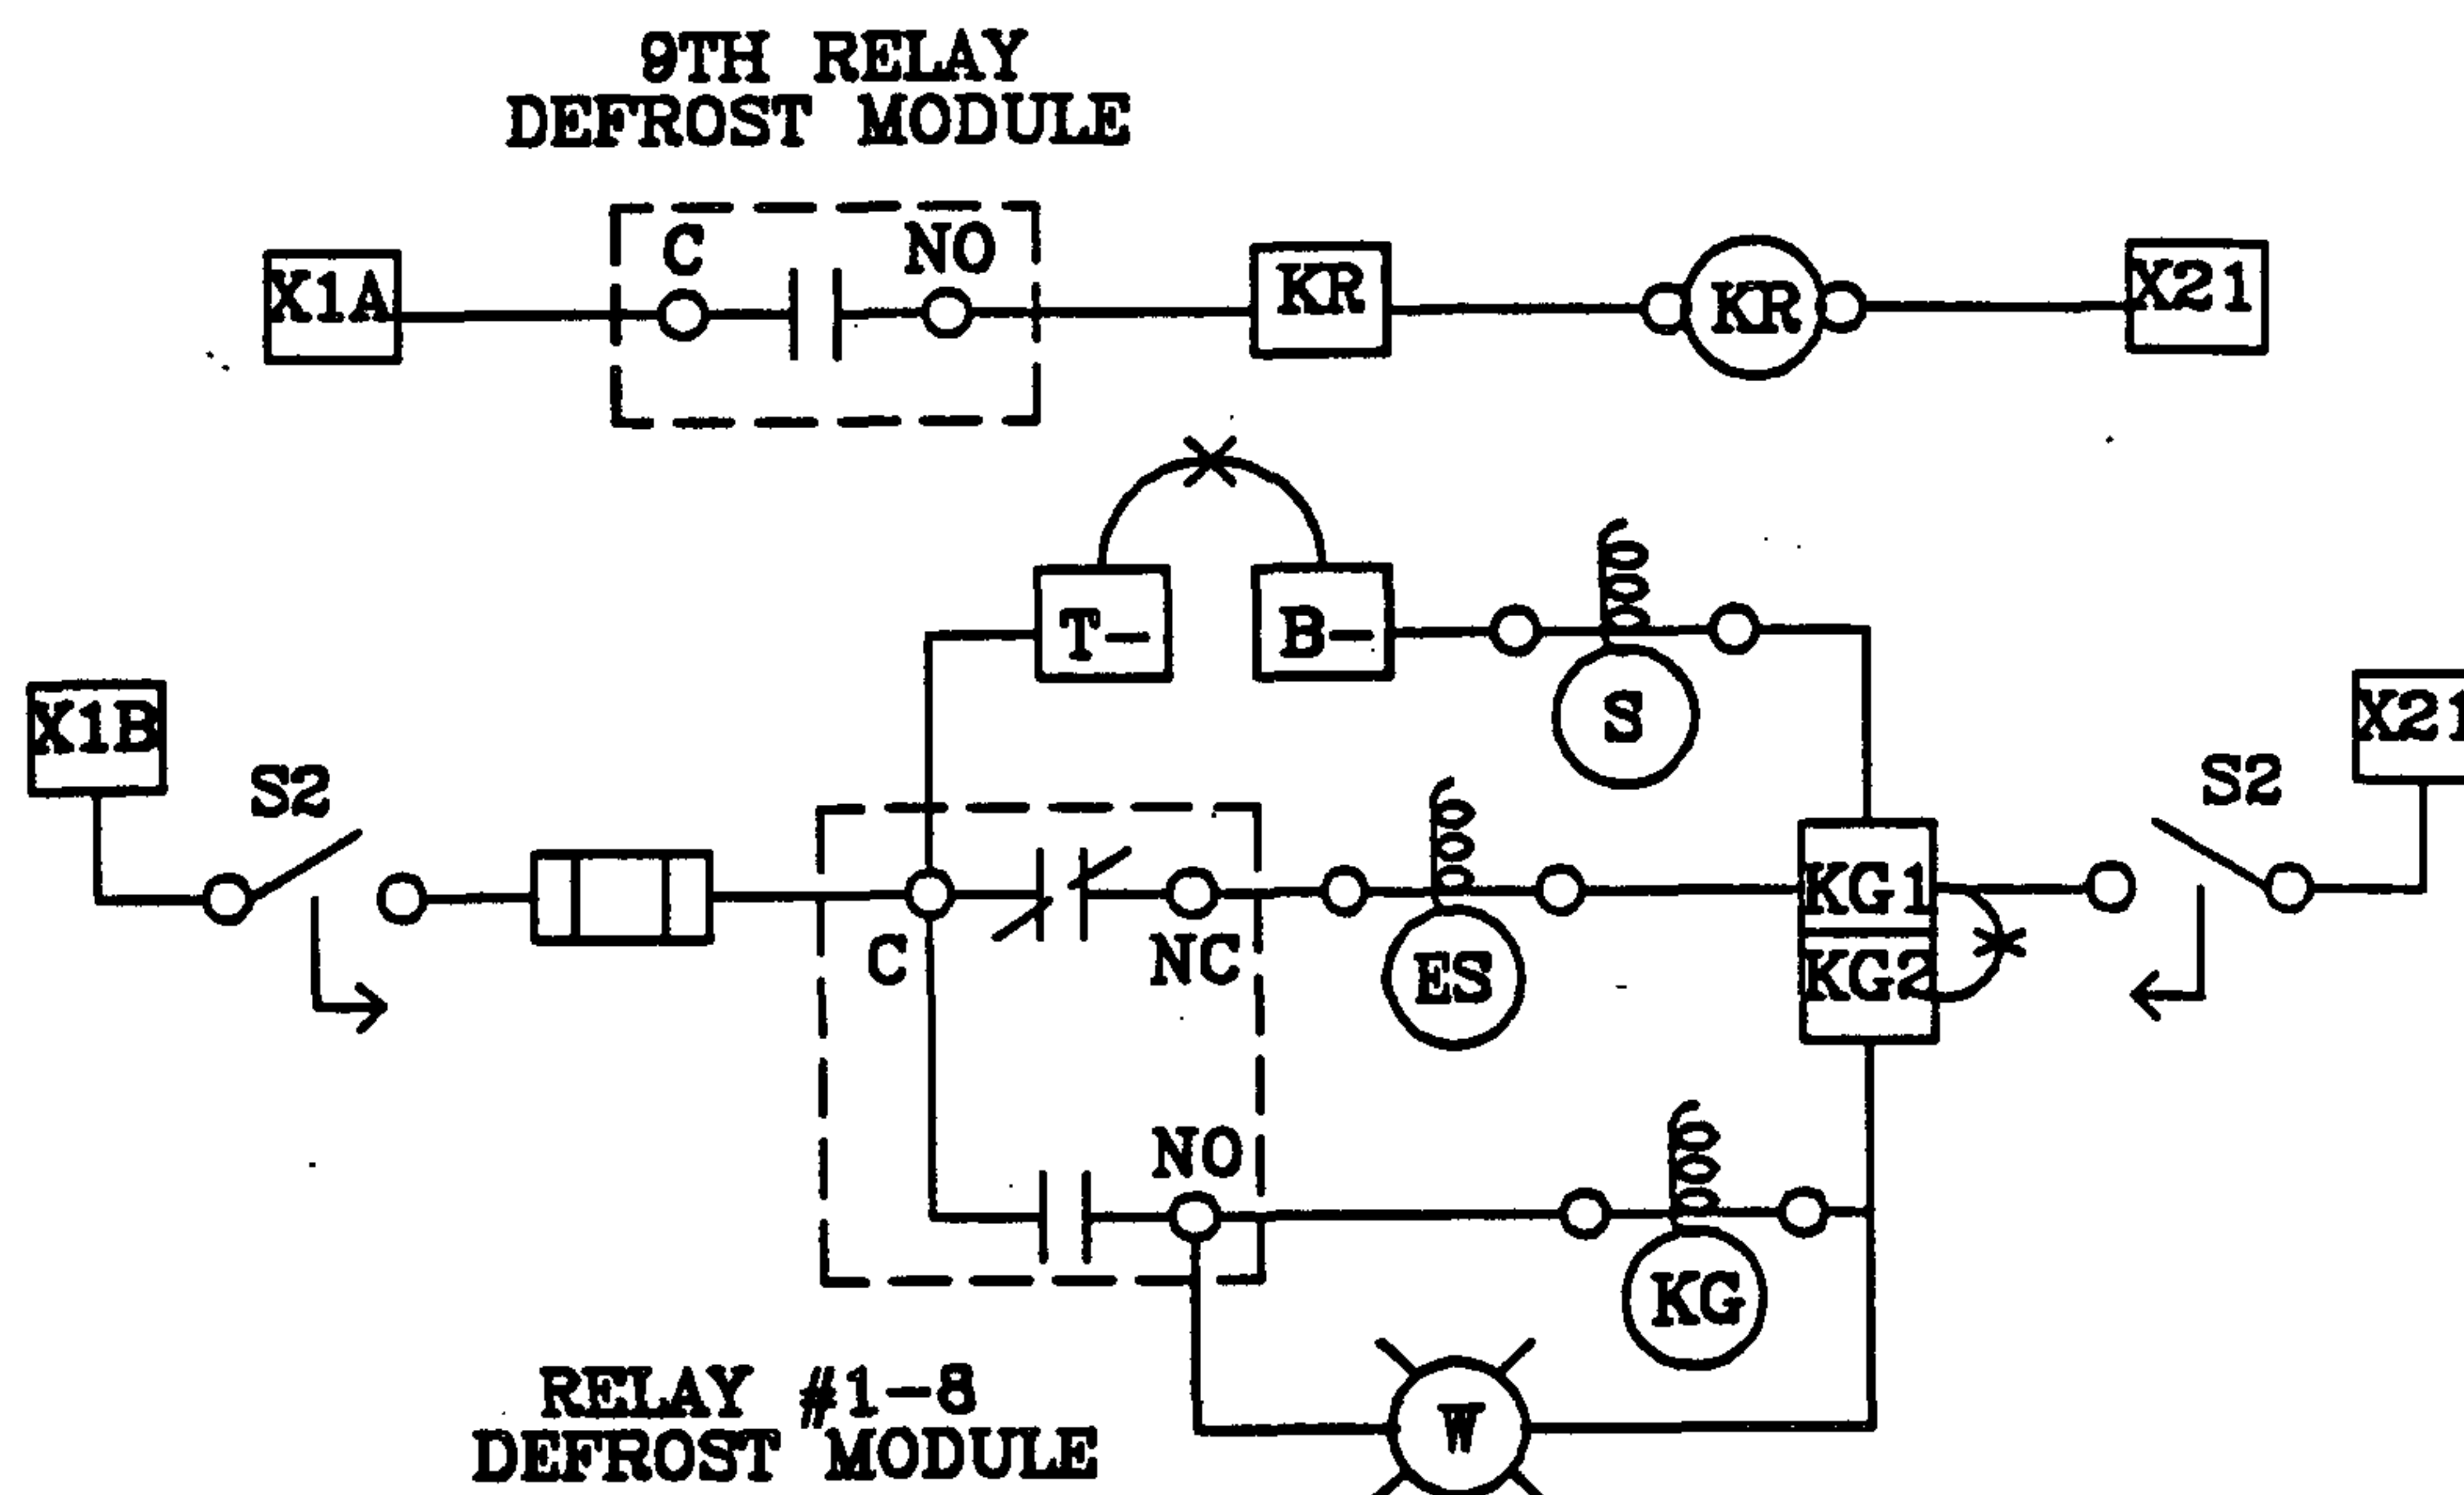

Figure 2-7. Gas defrost circuit.
Figure 2-7 shows a typical gas defrost circuit which incorporates an EPR solenoid for use during the refrigeration cycle. The EPR solenoid (ES) is energized off the normally closed set of contacts from the defrost module relay. During defrost, the ES is deenergized and the normally open set of contacts closes to energize the Koolgas solenoid (KG). The ES solenoid closes the suction line to the Suction Manifold and the KG koolgas solenoid opens the Koolgas line to the Evaporator. The ninth relay on the defrost module is used to energize the Koolgas Relay (KR). The KR energizes the main liquid line solenoid which creates a pressure differential to allow the Koolgas vapor to flow backward through the evaporator. All gas defrost circuits must energize the KR relay. The eight position dip switch located on the defrost module automatically energizes the ninth relay when a gas defrost is started. The wiring of the KR relay to the ninth relay is factory installed.